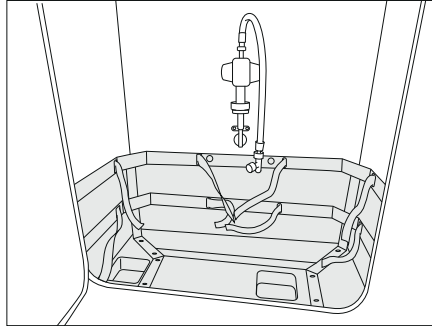
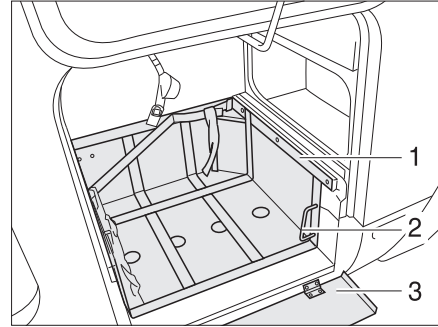

Fig. 239 Gas bottle compartment
Fig. 240 Gas bottle compartment with extendable slide
- If there is a guard plate (Fig. 240,3), fold it down.
- Unlock the slide (Fig. 240,1) using the handle (Fig. 240,2).
- Pull out the slide (Fig. 240,3) as far as possible.
- Turn back the handle (Fig. 240,2).
- Unlock the slide (Fig. 240,3) using the handle (Fig. 240,2).
- Push in the slide (Fig. 240,3) as far as possible, and turn back the handle (Fig. 239,2).
- If there is a guard plate (Fig. 240,1), fold it up.